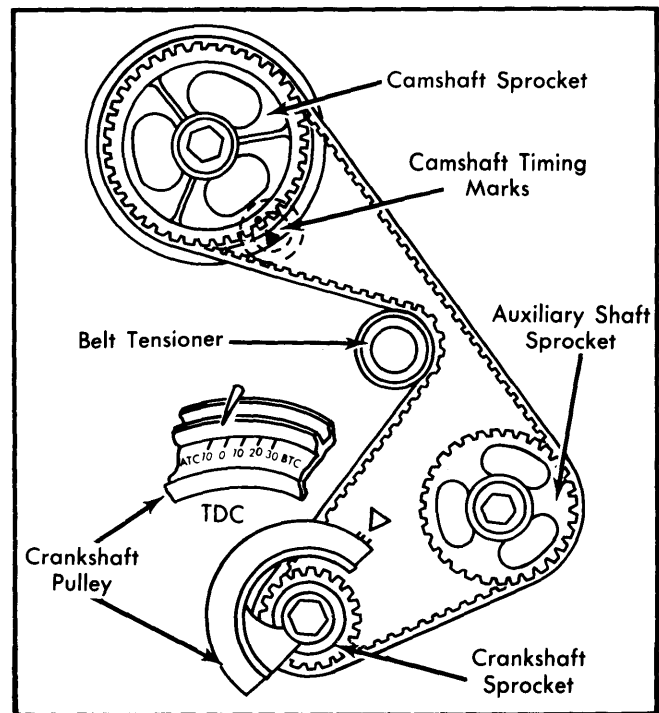

Fig. 6 Camshaft Belt Sprocket Alignment
Checking Timing — 1) Remove access plug from belt cover and position crankshaft at TDC by aligning pointer on cover with "O" mark on crankshaft damper. See Fig. 6.
2) Position crankshaft sprocket and camshaft sprocket as shown in Fig 6. Remove distributor cap and set rotor to No. 1 firing position by turning auxiliary shaft. Install drive belt over crankshaft sprocket and then counterclockwise over auxiliary and camshaft sprockets. Align belt in middle of sprockets.